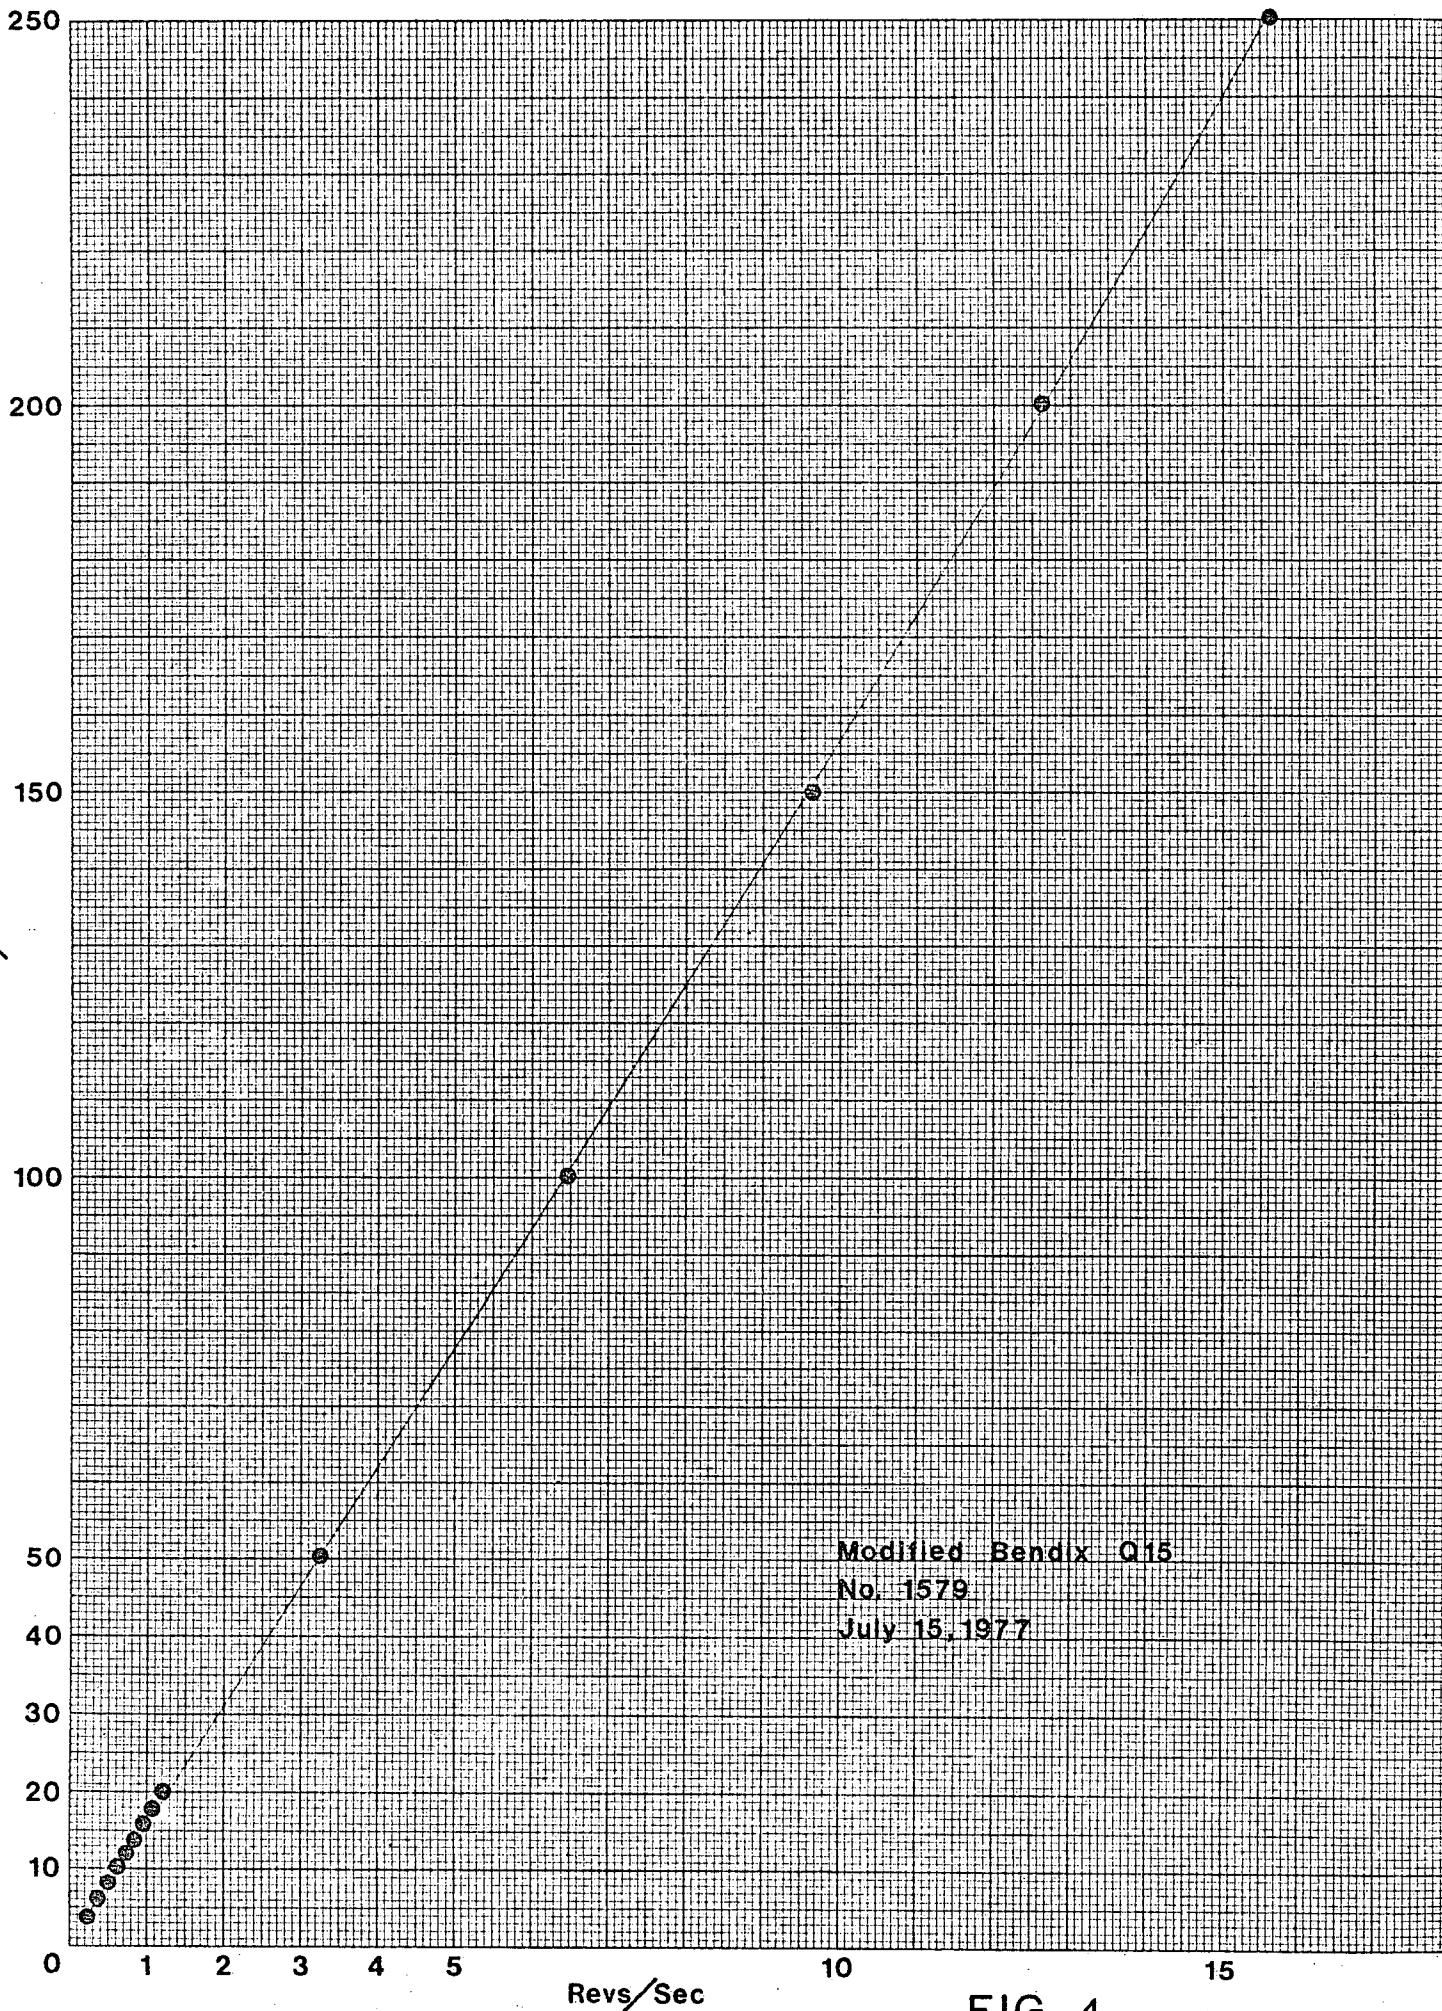

FIG. 4
- 2.4.17 Make a copy of the completed data record sheet (Fig. 3) and the hand plotted graph of velocities versus revolutions per second. (Fig. 4)